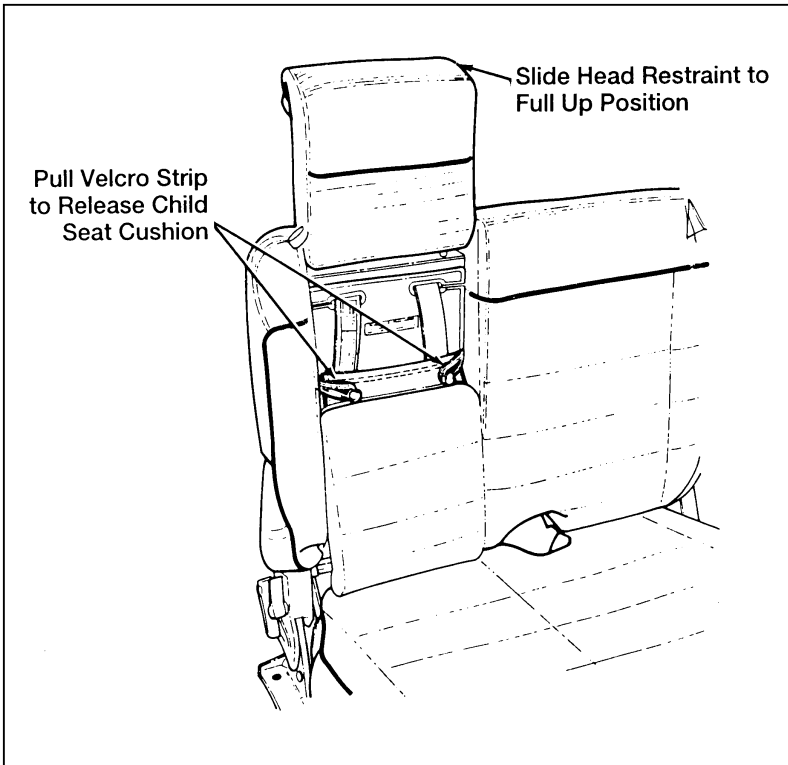

Figure 4: Positioning child safety seat head restraint and release of child seat cushion
2. Release strap and slide the head restraint to the full up position. Refer to Figure 4.
3. Pull both velcro straps to release the child seat cushion. Refer to Figure 4.